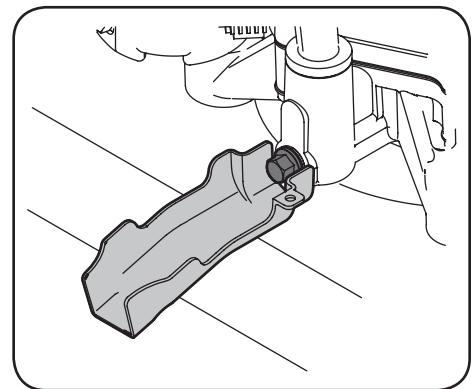

Figure 4-2
- Snap the small end of oil drain sleeve onto the oil sump. See Figure 4-2.